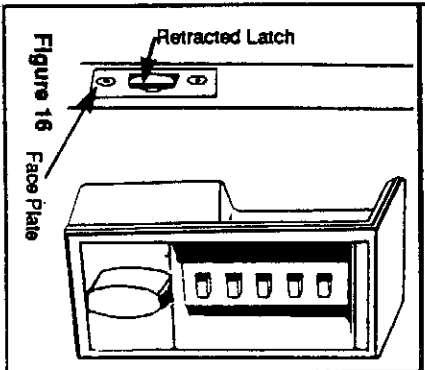

Figure 16
8. Turn the outside thumbturn to the right or clockwise once, until it stops, hold in this position and check if latch is retracted, (see Figure 16). Release. Try again to turn the thumbturn clockwise. Thumbturn will not turn, unless the correct combination is entered.